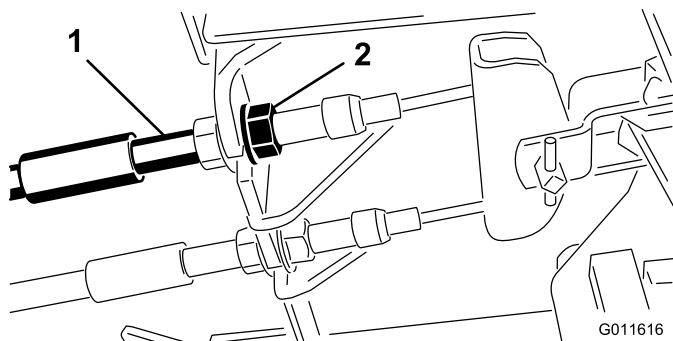

Figure 48
1. To reduce free travel of the brake pedals, tighten the brakes by loosening the front nut on the threaded end of the brake cable (Figure 48).